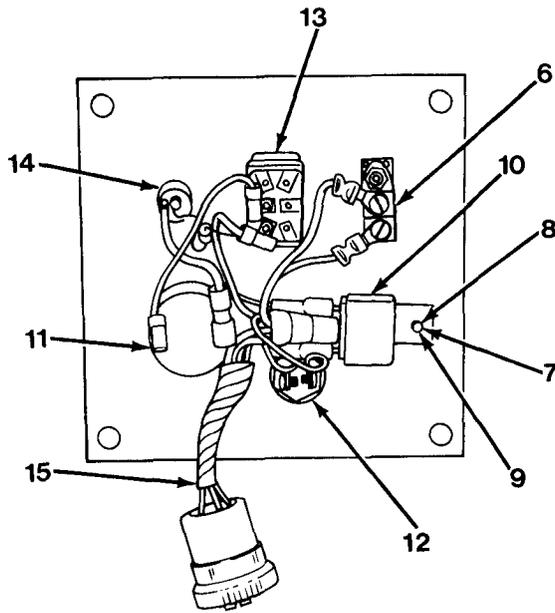

Figure 10-2
1. Solder panel harness (15) and resistor to warning light. Install warning light on control panel (5) and secure with washer and nut. Install bulb in WARNING light (14, Figure 10-2) socket.
2. Install HORN switch (13) by pushing horn switch (13) in hole until spring clips lock. Attach two red wires.
3. Install TEST switch (12) and secure with washer and nut. Install red wire and grey wire.
4. Install horn (11) and secure with plastic nut. Install red wire and black wire.
5. Install screw (7), washer (8) and nut (9) to secure relay (10). Connect wires from connector to relay tabs.
6. Install BY-PASS toggle switch (6) and secure with washer and nut. Install white wire and grey wire.